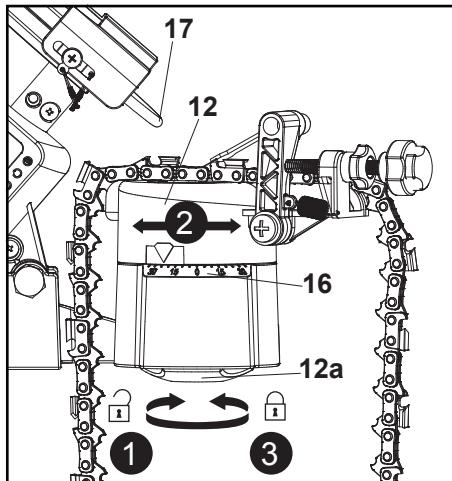

Fig. 5
1. Loosen the vice retainer (12a) slightly by turning it anticlockwise and then turn the saw chain vice (12) to the required saw chain angle - as shown on the angle scale (16) (Fig. 5, steps 1, 2).
2. Push down on the motor housing (4) by its operation handle (2) to verify if the grinding disc (17) corresponds with the angle of the saw chain.
3. Tighten the vice retainer (12a) afterward (Fig. 5, step 3).